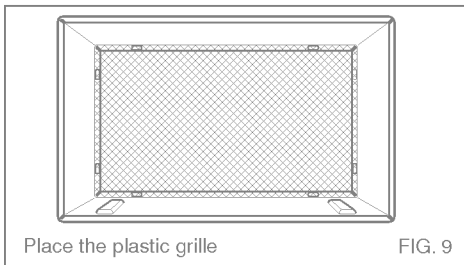

FIG. 9
- Remove the backing from the support blocks and attach them to the inside of the wall sleeve as shown FIG. 9. Slide the baffle into slots of the support blocks.